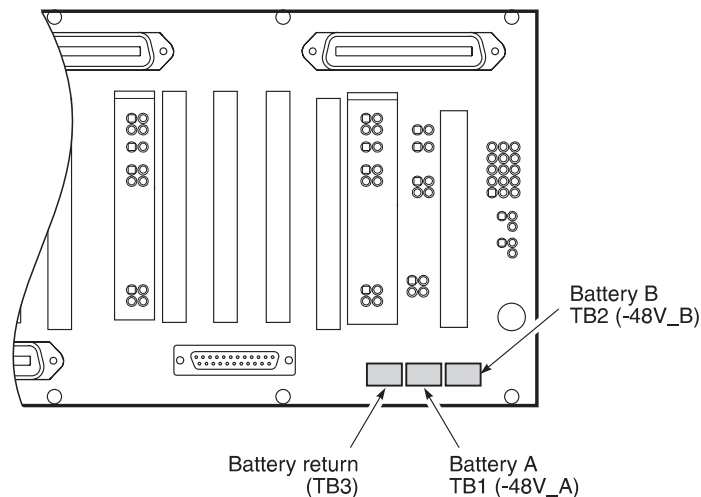

Figure 5. Connecting the CO Battery
8.3 Connect the CO Battery (Figure 5). Connect the CO Battery (Figure 5). The FCS-719 List 4A COTS may be powered from a single battery feed or from a split battery feed where you would connect Battery A (-48V_A) for Systems 1 and 2, and Battery B (-48V_B) for Systems 3 and 4.